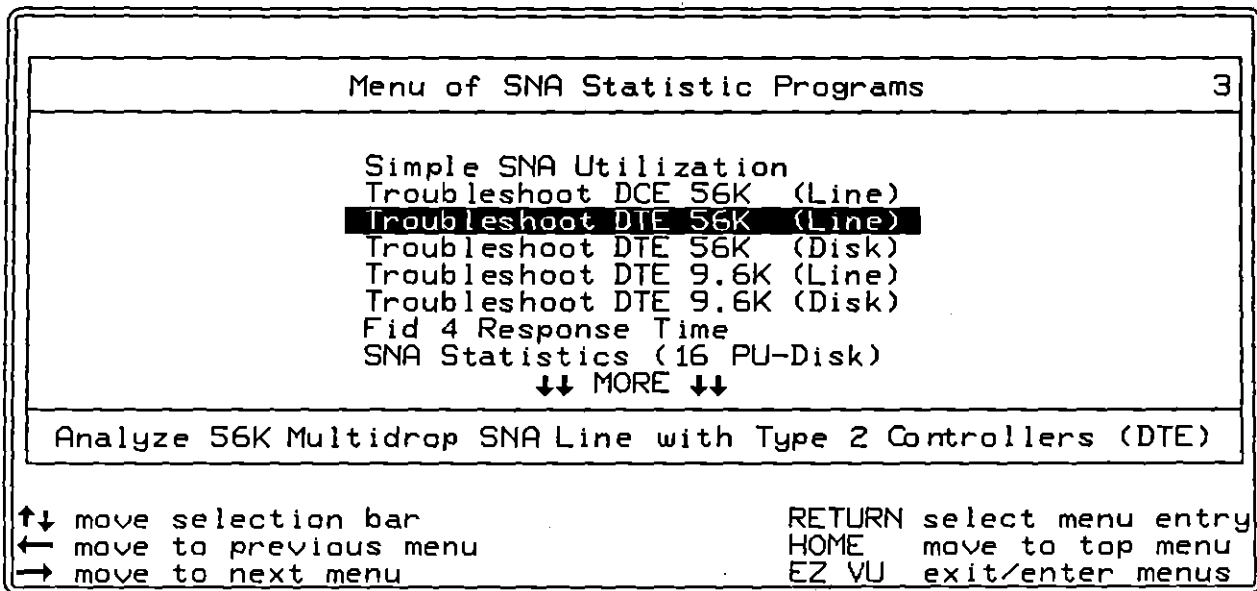
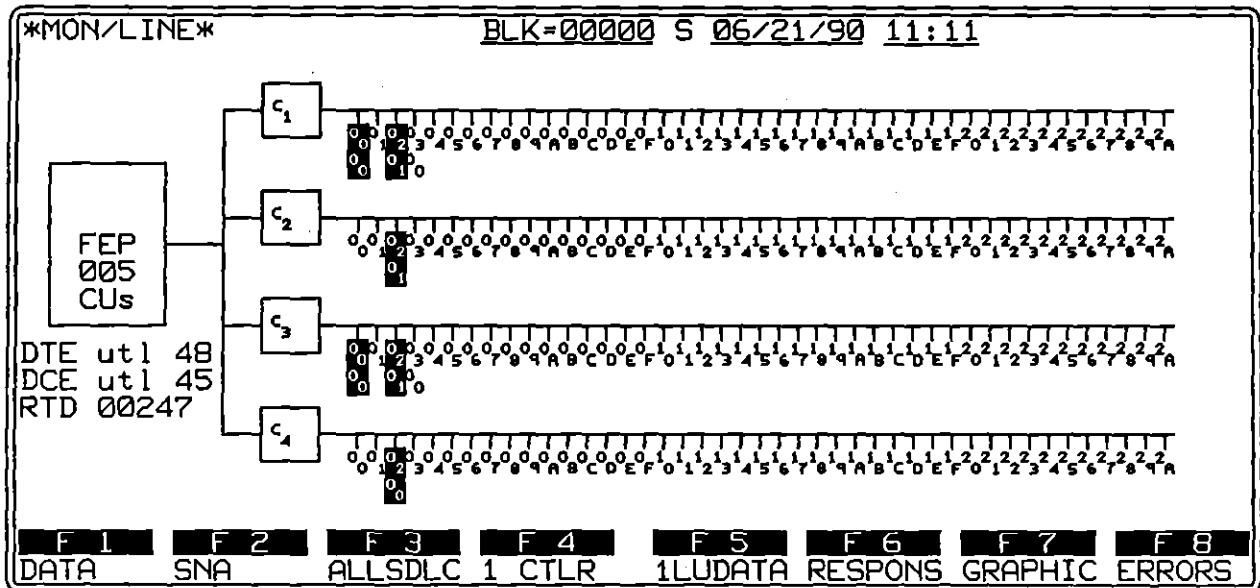

Figure 4-5 Statistic program selections for SNA protocol.
Figure 4-7 Run-mode display of controller and LU activity on an SNA multidrop line.
5. *Menu item description.* Each menu item can have an associated line of descriptive text, centered in the bottom box on the screen. This text is displayed automatically when the selection bar is over the menu item. See Figure 4-5.
Figure 4-7 shows the first Run-mode display for an SNA statistic program that was loaded and run from the Easy View menu. (The program was selected in Figure 4-5).